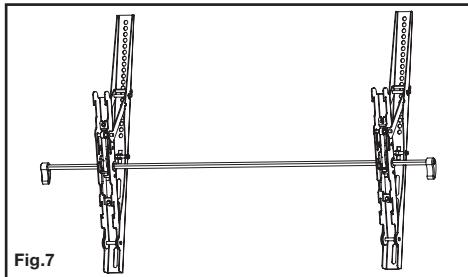

Fig.7
4. Pass the tilt adjustment rod through both arms as shown in Fig.6. Make sure the long part of the tilt adjustment knob faces downwards, exactly as shown. Replace the missing tilt adjustment knob using a screwdriver. The final assembly should match Fig.7.